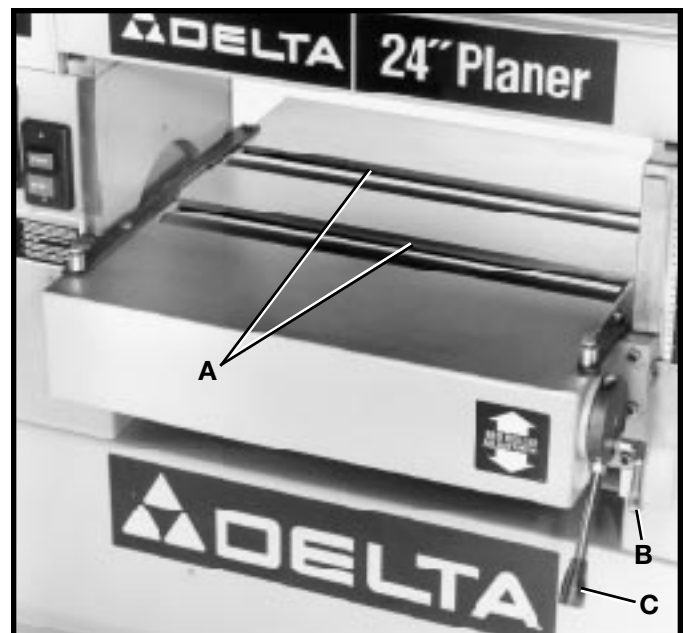

Fig. 21
Your planer is supplied with two table rolls (A) Fig. 21, which aid in feeding the stock by reducing friction between the stock and the table and rotate as the stock is fed through the planer.
1. To raise the table rolls, loosen locking lever (B) Fig. 21, and pull control lever (C) upward to the desired height setting.
2. To lower the table rolls, loosen locking lever (B) Fig. 21, and push control lever (C) downward to the desired height setting.
3. After adjusting height of the table rolls, tighten locking lever (C) Fig. 21.